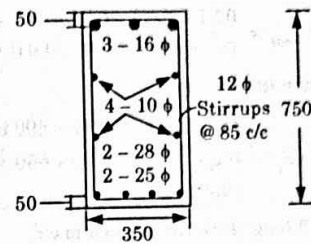

Fig. 2.17.1
- iii. The designed cross-section is shown in Fig. 2.17.1.